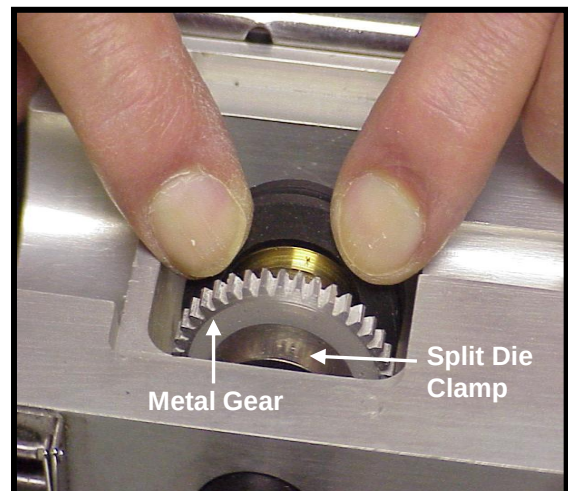

Figure 50
14.6.3 Use the supplied large 7/64" Allen Wrench to loosen the Split Die Clamp machine screw. **See Fig. 50**